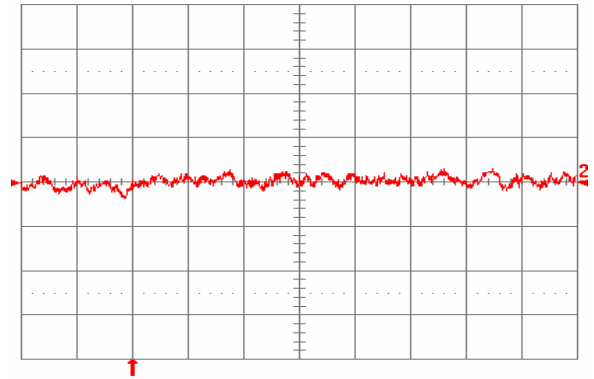

**Fig. 8.0V.14:** Test Setup for measuring input reflected ripple currents,  $i_c$  and  $i_s$ .
**Fig. 8.0V.1:** Available load current vs. ambient air temperature and airflow rates for SQ48T05080 converter with D height pins mounted vertically with  $V_{in} = 48\text{ V}$ , air flowing from pin 3 to pin 1, and maximum FET temperature  $\leq 120^\circ\text{C}$ .
**Fig. 8.0V.2:** Available load current vs. ambient air temperature and airflow rates for SQ48T05080 converter with D height pins mounted horizontally with  $V_{in} = 48\text{ V}$ , air flowing from pin 3 to pin 1, and maximum FET temperature  $\leq 120^\circ\text{C}$ .
**Fig. 8.0V.3:** Available load current vs. ambient air temperature and airflow rates for SQ48S05080 converter mounted vertically with  $V_{in} = 48\text{ V}$ , air flowing from pin 3 to pin 1, and maximum FET temperature  $\leq 120\text{ }^{\circ}\text{C}$ .
**Fig. 8.0V.4:** Available load current vs. ambient air temperature and airflow rates for SQ48S05080 converter mounted horizontally with  $V_{in} = 48\text{ V}$ , air flowing from pin 3 to pin 1, and maximum FET temperature  $\leq 120\text{ }^{\circ}\text{C}$ .
**Fig. 8.0V.5:** Efficiency vs. load current and input voltage for SQ48T/S05080 converter mounted vertically with air flowing from pin 3 to pin 1 at a rate of 300 LFM (1.5 m/s) and  $T_a = 25\text{ }^{\circ}\text{C}$ .
**Fig. 8.0V.6:** Efficiency vs. load current and ambient temperature for SQ48T/S05080 converter mounted vertically with  $V_{in} = 48\text{ V}$  and air flowing from pin 3 to pin 1 at a rate of 200 LFM (1.0 m/s).
**Fig. 8.0V.7:** Power dissipation vs. load current and input voltage for SQ48T/S05080 converter mounted vertically with air flowing from pin 3 to pin 1 at a rate of 300 LFM (1.5 m/s) and  $T_a = 25\text{ }^\circ\text{C}$ .
**Fig. 8.0V.8:** Power dissipation vs. load current and ambient temperature for SQ48T/S05080 converter mounted vertically with  $V_{in} = 48\text{ V}$  and air flowing from pin 3 to pin 1 at a rate of 200 LFM (1.0 m/s).
**Fig. 8.0V.9:** Turn-on transient at full rated load current (resistive) with no output capacitor at  $V_{in} = 48\text{ V}$ , triggered via ON/OFF pin. Top trace: ON/OFF signal (5 V/div.). Bottom trace: output voltage (2 V/div.). Time scale: 1 ms/div.
**Fig. 8.0V.10:** Turn-on transient at full rated load current (resistive) plus 2,200  $\mu\text{F}$  at  $V_{in} = 48\text{ V}$ , triggered via ON/OFF pin. Top trace: ON/OFF signal (5 V/div.). Bottom trace: output voltage (2 V/div.). Time scale: 2 ms/div.
**Fig. 8.0V.11:** Output voltage response to load current step-change (1.325 A – 2.65 A – 1.325 A) at  $V_{in} = 48$  V. Top trace: output voltage (200 mV/div.). Bottom trace: load current (1 A/div.). Current slew rate: 0.1 A/ $\mu$ s.  $C_o = 1$   $\mu$ F ceramic. Time scale: 0.5 ms/div.
**Fig. 8.0V.12:** Output voltage response to load current step-change (1.325 A – 2.65 A – 1.325 A) at  $V_{in} = 48$  V. Top trace: output voltage (200 mV/div.). Bottom trace: load current (1 A/div.). Current slew rate: 5 A/ $\mu$ s.  $C_o = 94$   $\mu$ F tantalum + 1  $\mu$ F ceramic. Time scale: 0.5 ms/div.
**Fig. 8.0V.13:** Output voltage ripple (50 mV/div.) at full rated load current into a resistive load with  $C_o = 10$   $\mu$ F tantalum + 1  $\mu$ F ceramic and  $V_{in} = 48$  V. Time scale: 1  $\mu$ s/div.
**Fig. 8.0V.15:** Input reflected ripple current,  $i_c$  (100 mA/div.), measured at input terminals at full rated load current and  $V_{in} = 48$  V. Refer to Fig. 8.0V.14 for test setup. Time scale: 1  $\mu$ s/div.
**Fig. 8.0V.16:** Input reflected ripple current,  $i_s$  (10 mA/div.), measured through 10  $\mu$ H at the source at full rated load current and  $V_{in} = 48$  V. Refer to Fig. 8.0V.14 for test setup. Time scale: 1  $\mu$ s/div.
**Fig. 8.0V.17:** Output voltage vs. load current showing current limit point and converter shutdown point. Input voltage has almost no effect on current limit characteristic.
**Fig. 8.0V.18:** Load current (top trace, 5 A/div., 20 ms/div.) into a 10  $m\Omega$  short circuit during restart, at  $V_{in} = 48$  V. Bottom trace (5 A/div., 1 ms/div.) is an expansion of the on-time portion of the top trace.